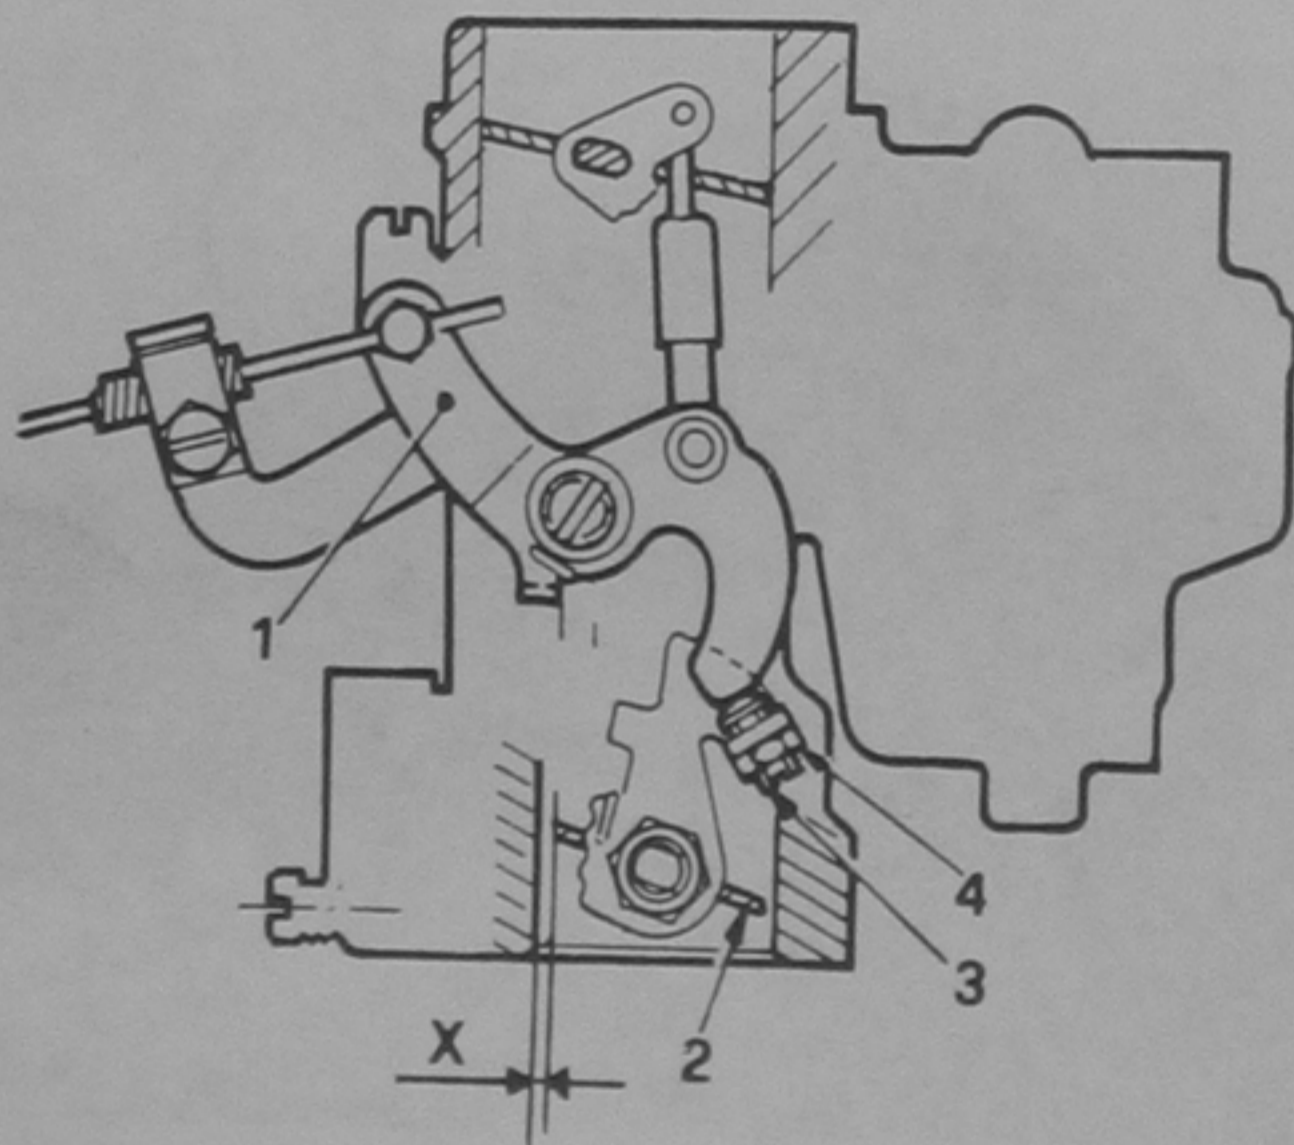

Fig. 3.5 Fast idle adjustment diagram (Sec 12)
15 Close the choke valve plate by pulling the control lever (1) (Fig. 3.5). The throttle valve plate should be open so that the gap (X) is between 0.75 and 0.80 mm (0.030 and 0.032 in). Measure with a wire of known diameter. If adjustment is required release the locknut (4) and turn the fast idle screw (3) (Fig. 3.5).